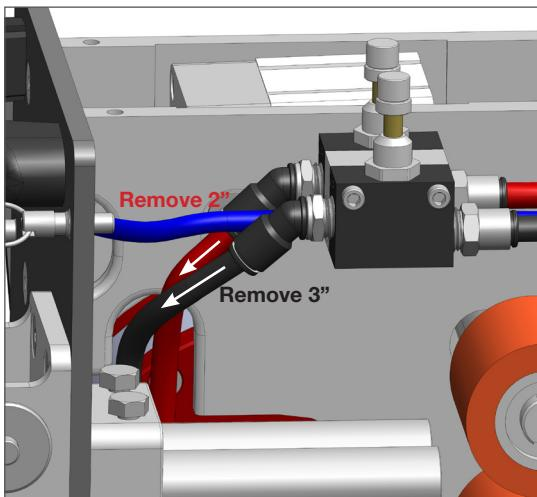
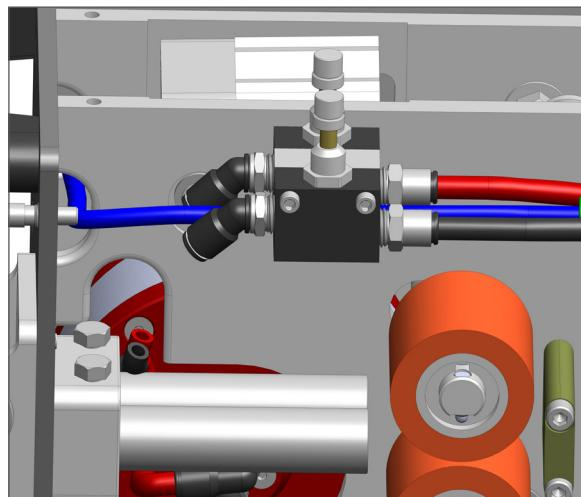
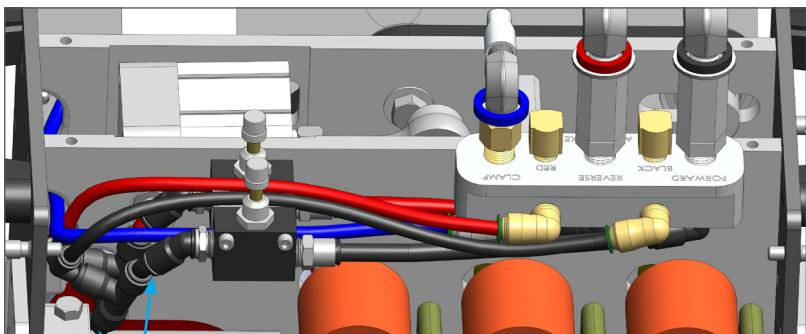

FIGURE 1
FIGURE 2
FIGURE 3
1. Remove the 4 flat head cap screws from the Top Plate using a 5/32 Allen wrench hex key. Set the Top Plate and screws aside, and open the Side Door. (**FIGURE 1**)
2. Unplug the three tubes from the bottom of the manifold (**FIGURE 2**) and remove the 2 hex head bolts using a 7/16 socket driver or box wrench. Remove and retain the top 3 JIC fitting assemblies, and disconnect the 3 air tubes from the bottom of the Air Manifold. Discard the old manifold. (**FIGURE 3**)
1. Install the 3 JIC fitting assemblies to the new AutoStroke Air Manifold. Use pipe dope or tape on the NPT tapered threads. Re-attach the air manifold using the 2 hex head bolts that were reserved from the original manifold assembly. (**FIGURE 1**)
2. Reconnect the 3 air tubes (blue, red, and black) to the push-to-connect fittings on the bottom of the air manifold. (**FIGURE 2**)
1. Disconnect the red and black air tubes from the fittings on the left side of the flow controls. (**FIGURE 1**) Cut exactly 2 inches off the end of the red tube and 3 inches off the black tube. (**FIGURE 2**)
2. Connect the red and black tubes with the T-fittings from the manifold to the fittings on the left side of the flow controls. Connect the other end of the T-fittings to the end of the cut tubing. The tubes from the manifold assembly should lie between the flow control knobs. (**FIGURE 3**)